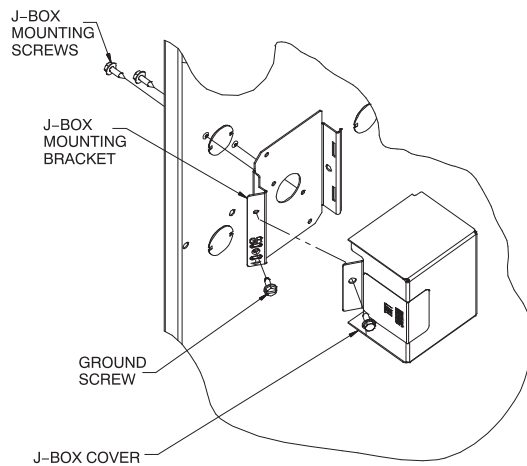

Fig. 34 – Installing J-Box (When Used)
The J-Box cover, mounting bracket and screws are shipped in the loose parts bag included with the furnace. See **Fig. 34** for J-Box mounting locations.
1. Drill two (2) 1/8-in. (3 mm) pilot holes through the dimples in the furnace casing near the 7/8-in. knock-out on the side of the casing. Do not remove the knock-out in the side of the casing.
9. Connect field power and neutral leads to furnace power leads inside the external electrical box as shown in **Fig. 34**.
1. Install J-Box mounting bracket to inside of furnace casing. See **Fig. 34**.
5. Connect field ground wire and factory ground wire to green ground screw on J-Box mounting bracket as shown in **Fig. 34**.
7. Attach furnace J-Box cover to mounting bracket with screws supplied in loose parts bag. Do not pinch wires between cover and bracket. See **Fig. 34**.
4. Connect field ground wire and factory ground wire to green ground screw on J-Box mounting bracket as shown in **Fig. 34**.